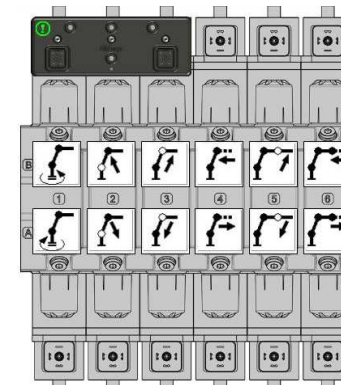

Figure 75. DA-module placed.
4. Release the mouse button and the DA-module are placed on the valve block, see Figure 75.